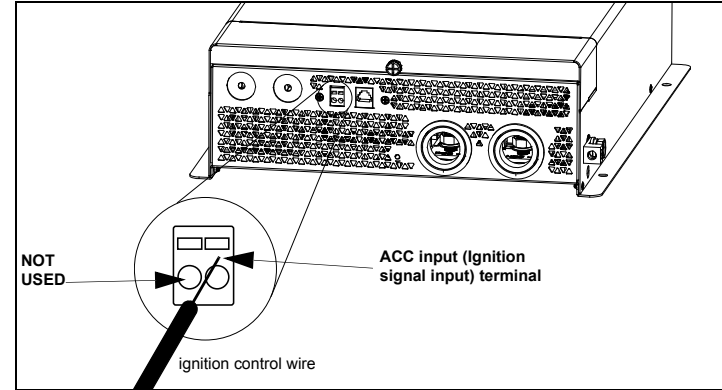

Figure 6 Ignition Signal (ACC) Input Terminal
4. Locate the ACC input (ignition signal input) terminal on the right side of the connector. The left terminal is not used at this time. See Figure 6.